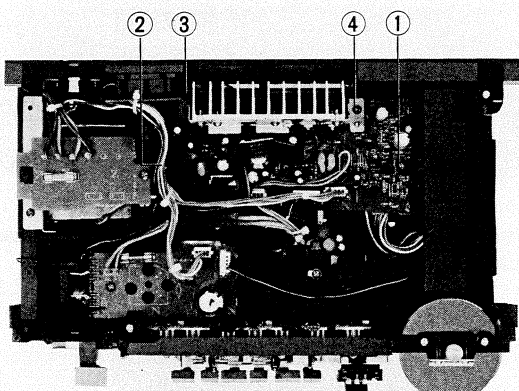

Fig. 16
2. Removal of audio P. C. board (Figs 16 and 17)